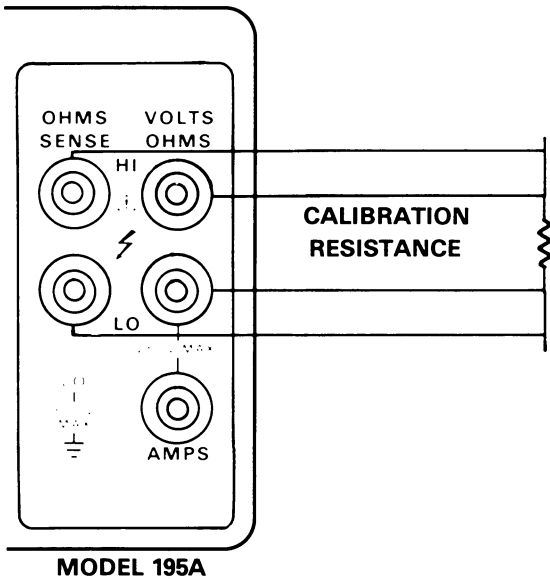
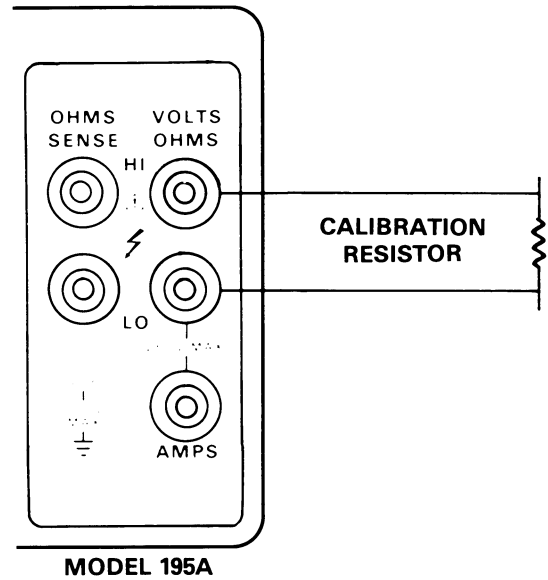

Figure 7-3. Connections for Calibration of 20Ω and 200Ω Ranges
Figure 7-4. Connections for Calibration of 2kΩ Through 20MΩ Ranges
2. Connect the calibration resistance to the VOLTS OHMS terminals. See Table 7-5 for recommended values. Use the 4-terminal connections shown in Figure 7-3 for calibration on the 20Ω and 200Ω ranges. The 2-terminal connections shown in Figure 7-4 may be used for all ranges if zero is left enabled.